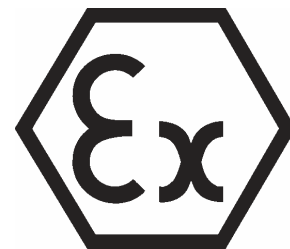

Fig. 3.3.1.
- Your pump can be used in potentially explosive atmospheres if the symbol of Fig. 3.3.1. is visible on the identification plate. Below the symbol is indicated what zones and equipment group is applicable. The maximum allowable surface temperature is indicated on the type plate Fig. 3.3.2.